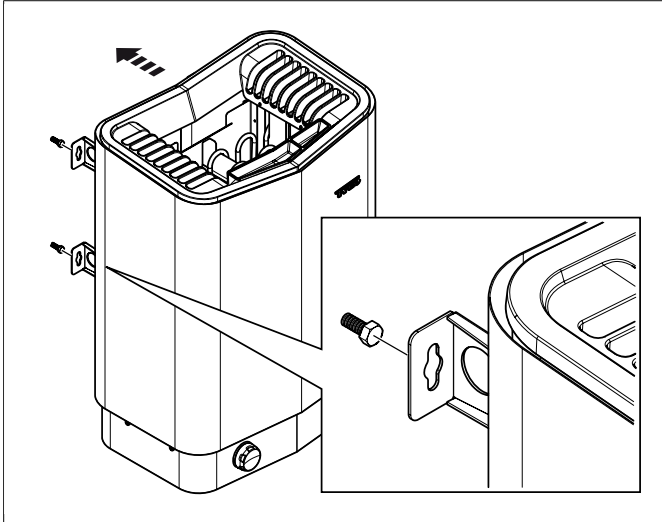

Figure 10: Hang the heater up.
9. Hang the heater on the screws see **Figure 10**, Page 5.